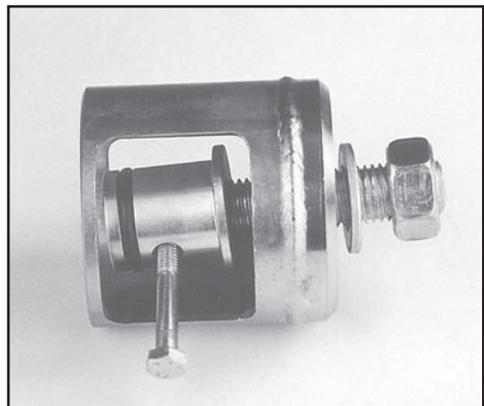

**FIG. 63: CONTROL STUD COMPONENTS**
1. Place the control sleeve seal into the groove of the control sleeve (see Fig. 63 and refer to appendix 2 for descriptions of parts).